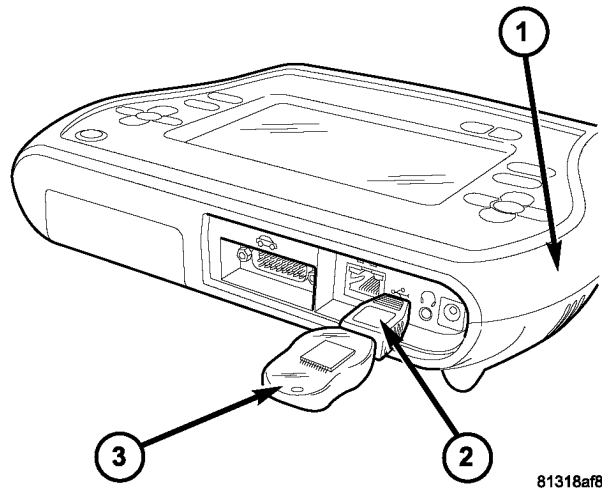

Fig. 1 USB KEY, GENDER CHANGER, AND StarSCAN® TOOL
7. With the StarSCAN® powered OFF, connect the USB Key and Gender Changer to the StarSCAN® USB port (Fig. 1).